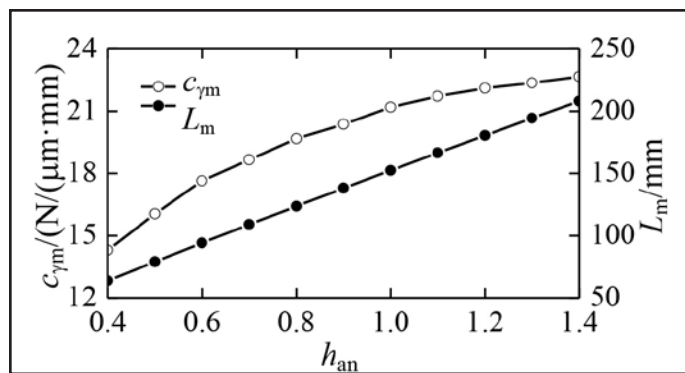

Figure 8 The  $c_{\gamma m}$  and  $L_m$  vs. different addendum coefficient  $h_{an}$ .
**Addendum coefficient.** Figure 8 shows the effect of addendum coefficient  $h_{an}$  on the mean value of mesh stiffness  $c_{\gamma m}$  and contact-line length  $L_m$ ; the addendum coefficient  $h_{an}$  is varied from 0.4–1.4. It is seen that the mean values of mesh stiffness and lengths of contact lines increase in the same trend when addendum coefficient  $h_{an}$  increases. The increasing values of  $L_m$  and  $c_{\gamma m}$  are 144 mm and 8.37 N/( $\mu\text{m}\cdot\text{mm}$ ), respectively.